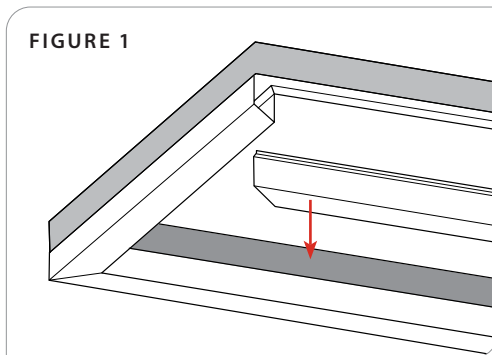

FIGURE 1
1. Remove Lens from fixture (figure 1).